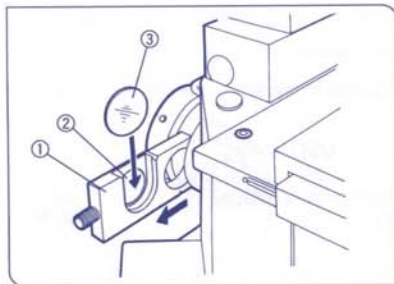

Fig. 8
**6 Mounting the ND Filter (Fig. 8)**
1. Slide the fluorescence vertical illuminator's filter slider ① in the direction of the arrow.
2. Insert the filter ③ into the U-shaped filter holder ②.